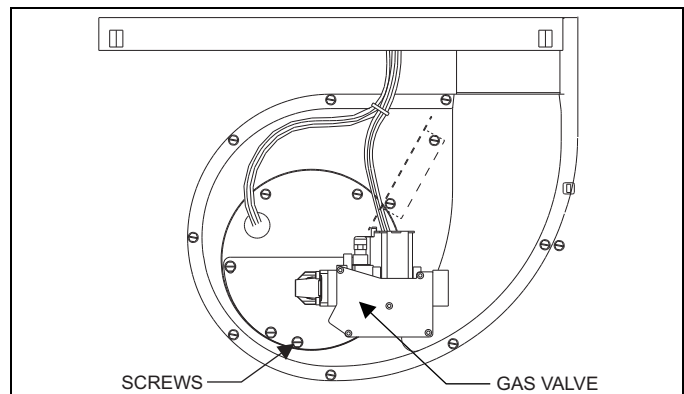

FIGURE 15: Burner Assembly
5. Remove the four screws that attach the gas manifold to the burner support box. See Figure 15.